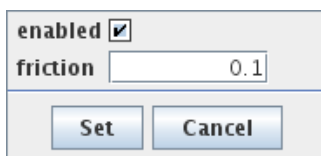

Figure 79: Dialog for setting collision behavior between bodies.
- If a user selects a particular set of rigid and/or deformable bodies, a specific collision behavior may be established among those bodies by choosing “Set collisions ...” from the context menu. That will open the dialog shown in Figure 79, allowing the enabled and friction properties for this behavior to be set.